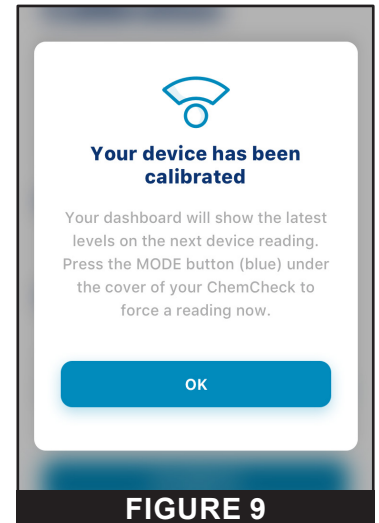

FIGURE 9
5. Your Device Has Been Calibrated will display (**Figure 9**). Press OK to complete initial calibration.